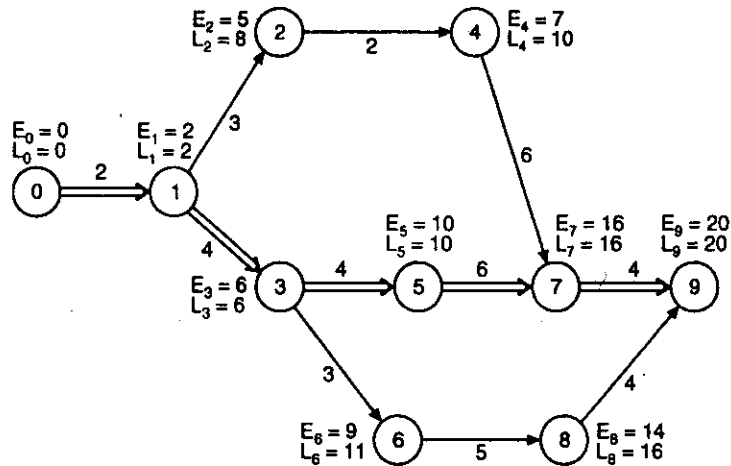

Fig. 8.68
To illustrate the resource smoothing operation, we consider the network shown in Fig. 8.68 (see page 367). For simplicity, only kind of resources, i.e., crew size, has been considered.
Step 2. In the time scaled version of the network (which is also called *squared network*), first of all the critical path is drawn along a straight line. Then the non-critical paths are added as shown in Fig. 8.68.